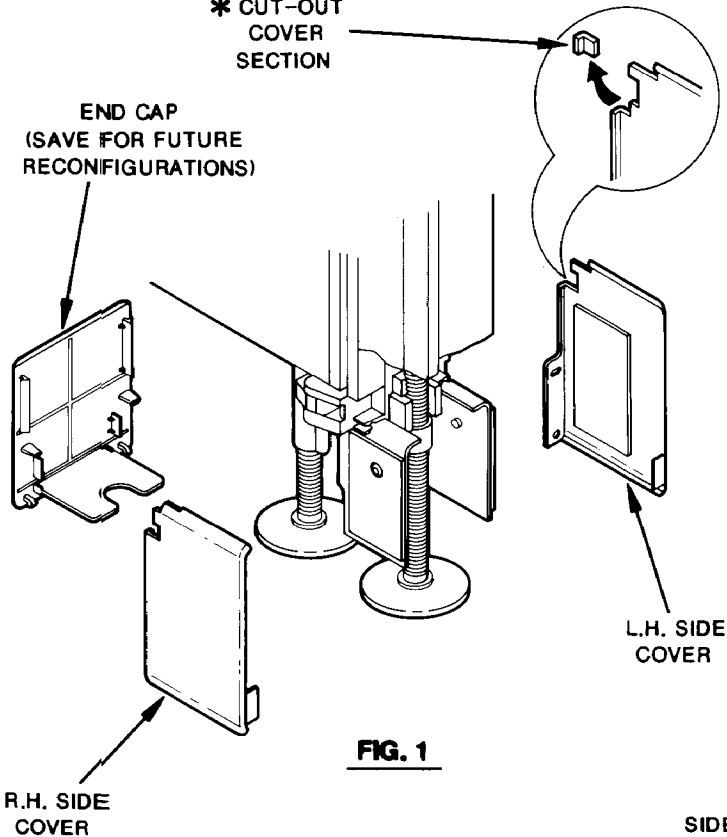

FIG. 1
4. For finish post side of door section, mount hanger bracket and remove both side covers from end cap (Fig. 1). Save end cap for future reconfigurations. Mount side cover not used with finish post to opposite side of door section (Fig. 2).